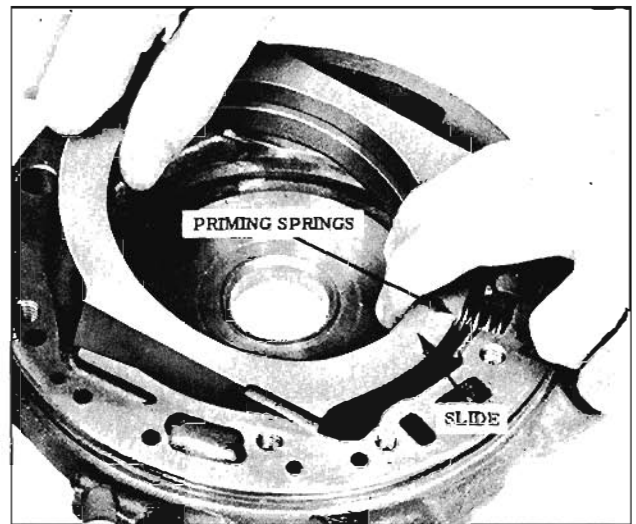

Fig. 6-55 Installing Pump Slide
11. Assemble slide into pump body by compressing slide against priming springs at lower end until slide can be fully installed into pump. (Fig. 6-55)